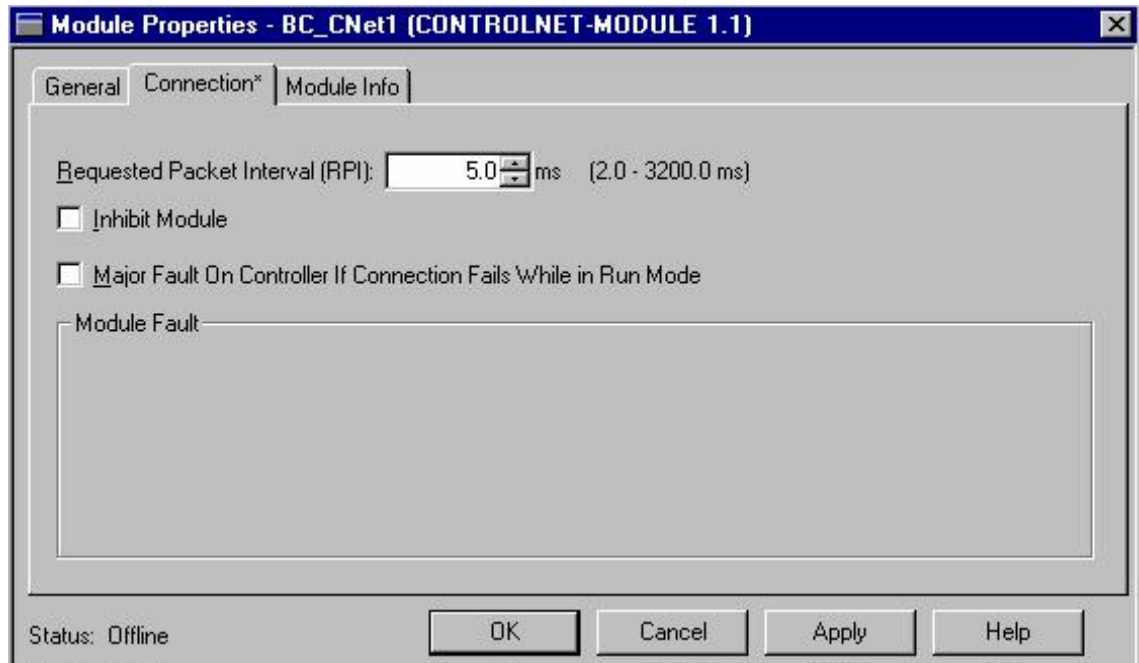

Figure 13. Packet Rate Selection
- Click the NEXT button to enter the settings for the Requested Packet Interval. The default setting should be sufficient for most applications. When finished with the Requested Packet Interval screen, click the FINISH button to exit. Refer to Figure 13.